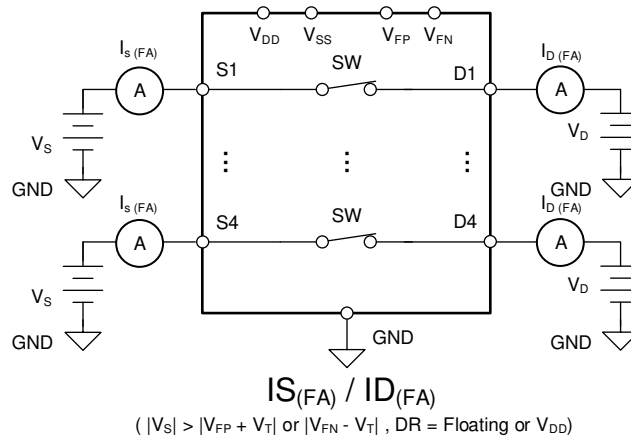

Figure 7-3. Measurement Setup for Input and Output Leakage Current Under Overvoltage Fault with Normal Supplies
If any of the source pin voltage goes above the fault supplies (V_{FP} or V_{FN}) by one threshold voltage (V_T), the TMUX7462F's overvoltage protection feature is triggered to turn off the switch under fault, keeping the fault channel in the high-impedance state. $I_{S(FA)}$ and $I_{D(FA)}$ denotes the input and output leakage current under overvoltage fault conditions, respectively. The supply (or supplies) can either be in normal operating condition (Figure 7-3) or abnormal operating condition (Figure 7-4) when the overvoltage fault occurs. The supply (or supplies) can either be unpowered ($V_{DD} = V_{SS} = V_{FN} = V_{FP} = 0\text{ V}$), floating ($V_{DD} = V_{SS} = V_{FN} = V_{FP} = \text{No Connection}$), or at any level that is below the undervoltage (UV) threshold during abnormal operating conditions.